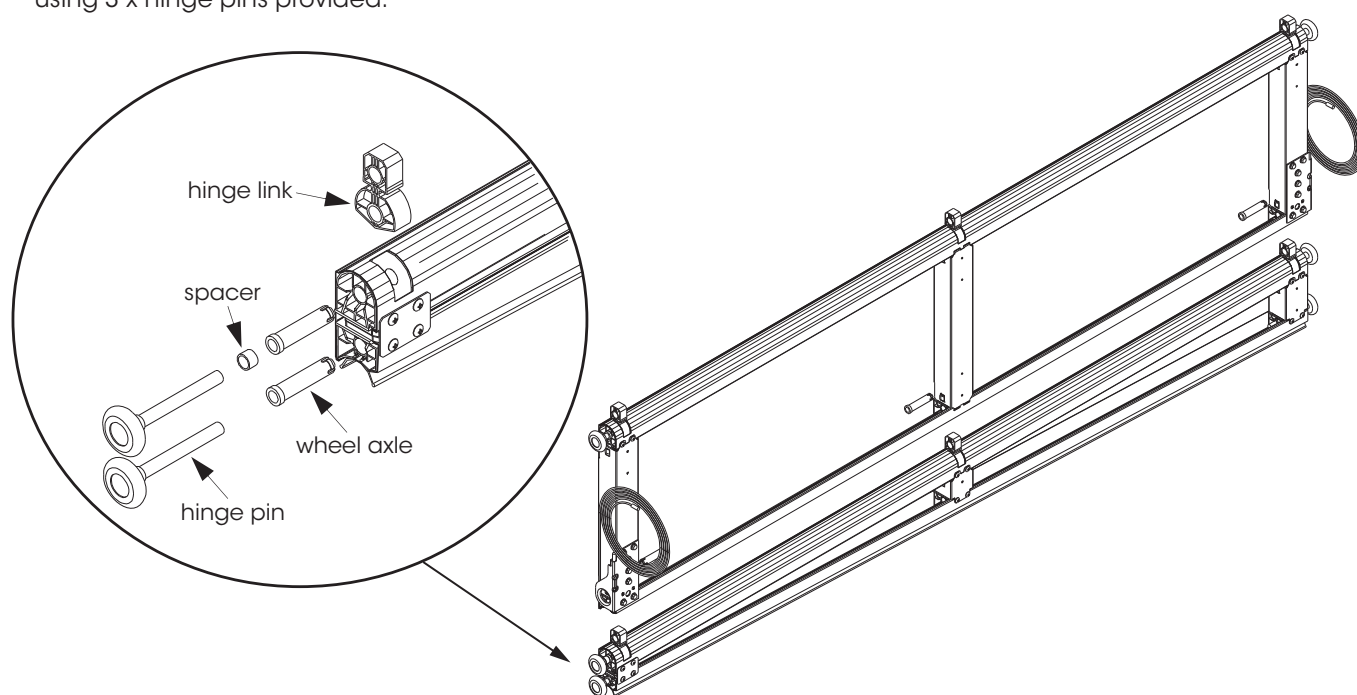

Fig: 5.1.1
- a) Assemble the bottom panel taking note that there are no wheels or weather strip on the bottom panel, these are both on the taper panel. Fig 5.1.1.
- b) Assemble the tapered panel as shown in insert of Fig 5.1.1. The 2 spacers required are to be cut 10-12mm long from a white link pin and fitted one to each side as shown.